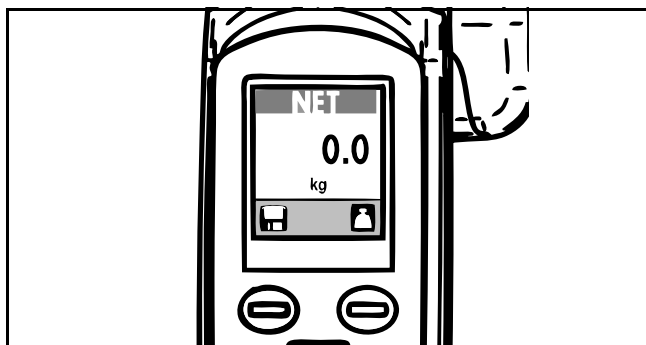

Fig. 63
- 3) Press the “scale” button to zero the scale. Now the display will show a zero weight (see Fig. 63).